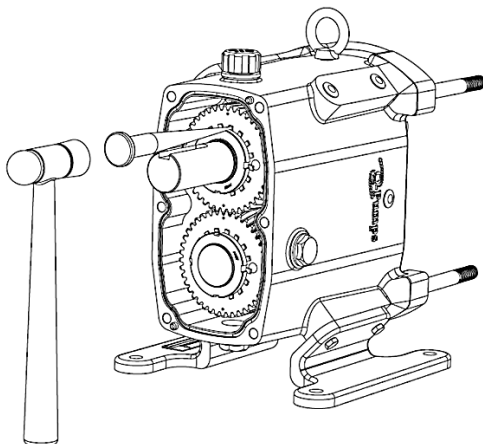
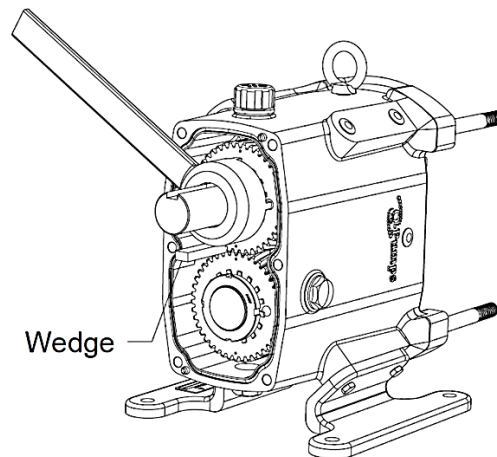

Figure 43: Bending Tabs on Lock Washers
Figure 44: Removing Lock Washers
2) Using a hammer and a punch, bend the tabs straight on the lock washers (Figure 43). Use a wedge (wood or plastic) to keep the shafts from turning while removing the lock nuts (Figure 44). Using a spanner wrench or punch, remove the gear lock nuts. Slowly remove the gears from the shafts. Remove the gear keys and gear spacers from the shafts.